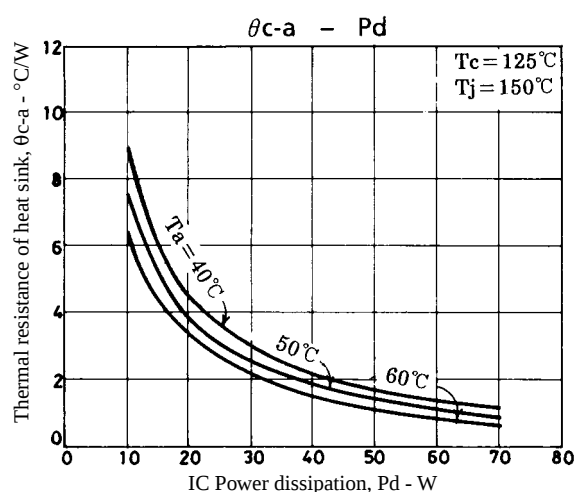

Figure 3. STK4161V θc-a - Pd
Figure 3 shows the relation between Pd and θc-a given from (1) and (3) with Ta as a parameter.
The thermal resistance of a heat sink is obtained from Figure 3.